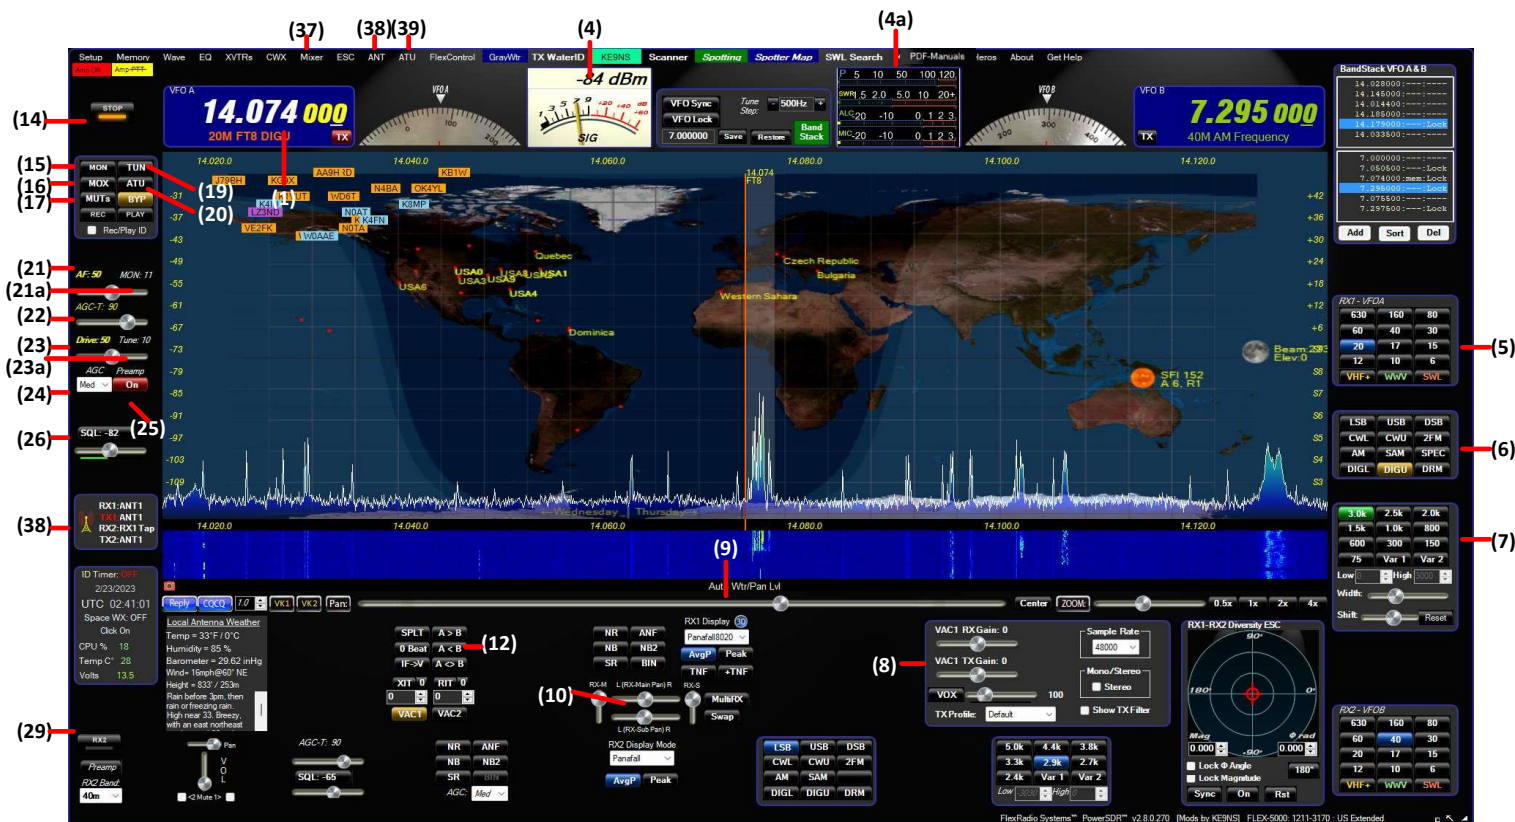

Figure 44: Front Panel Controls Used for Basic Digital Mode Operation
Please use Figure 44 to identify the controls referenced in the following step-by-step instruction. For consistency we have used the same control identifiers as in Figure 46 on page 73 and for clarity we have left out any identifiers of controls not referenced.
If your digital mode software requires a stereo connection, check **Stereo**. To automatically enable VAC for **DIGU**, **DIGL** and **DRM (6)** modes, check **Auto Enable**. When operating these modes, the Front Console also shows several controls relating to VAC (8), as shown in Figure 44 above). You can now use **VOX** to PTT the radio. This prevents audio from becoming out of sync after hours of continuous operation or Check **Reset VAC every hour**.